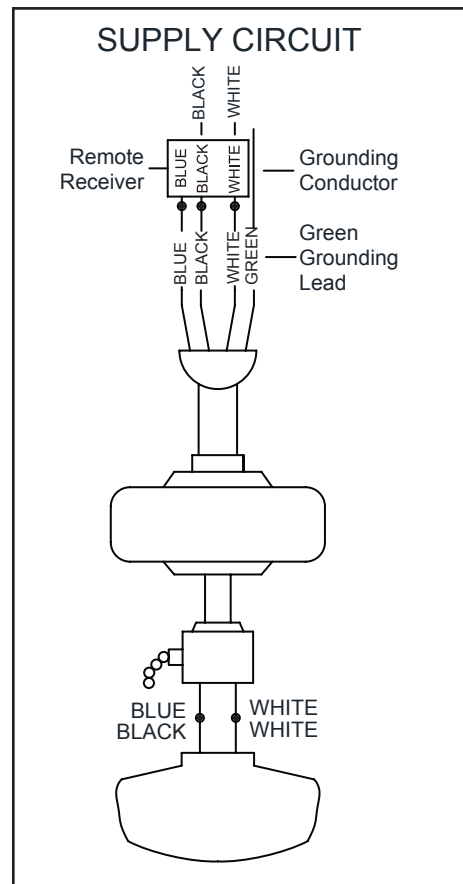

Figure 11
Follow the steps below to connect the fan to your household wiring. Use the wire connecting nuts supplied with your fan and supplied with remote control. Secure the connectors with electrical tape. Make sure there are no loose strands or connections. (Figure 11)
1. Connect the ground conductor of the 120v supply (this may be a bare wire or a wire with green colored insulation) to the green ground lead(s) of the fan. (Figure 11)
2. Connect the fan motor white wire to the receiver white wire using a wire nut. (Figure 11)
3. Connect the fan motor black wire to the receiver black wire using a wire nut. (Figure 11)
4. Connect the fan motor blue wire to the receiver blue wire using a wire nut. (Figure 11)
5. Connect the receiver black wire to the supply black (hot) wire using a wire nut. (Figure 11)
6. Connect the receiver white wire to the supply white (neutral) wire using a wire nut. (Figure 11)